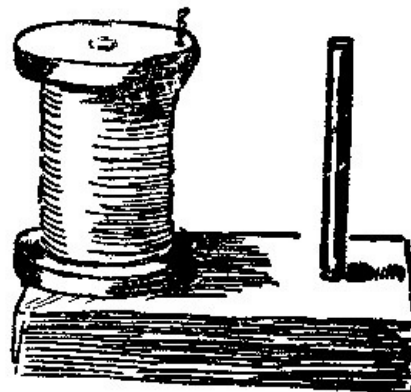

Fig. 12.
**38. Spool Holder for Wire.** Fig. 12. When winding magnets it is necessary to have the spool of wire so arranged that it will take care of itself and not interfere with the winding. If you have a brace and bit, bore a hole in a base  $\frac{7}{8}$  in. thick for a  $\frac{1}{4}$  in. dowel. The dowel should fit the hole tight. The spools of wire purchased can then be placed upon the dowel, where they will unwind evenly. The base may be nailed or clamped to a table.